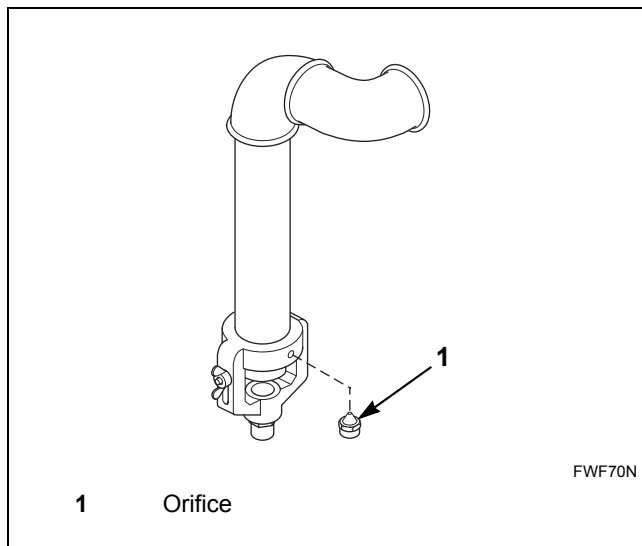

Figure 9
3. Use a wrench to remove the main orifice. Refer to *Figure 9*.